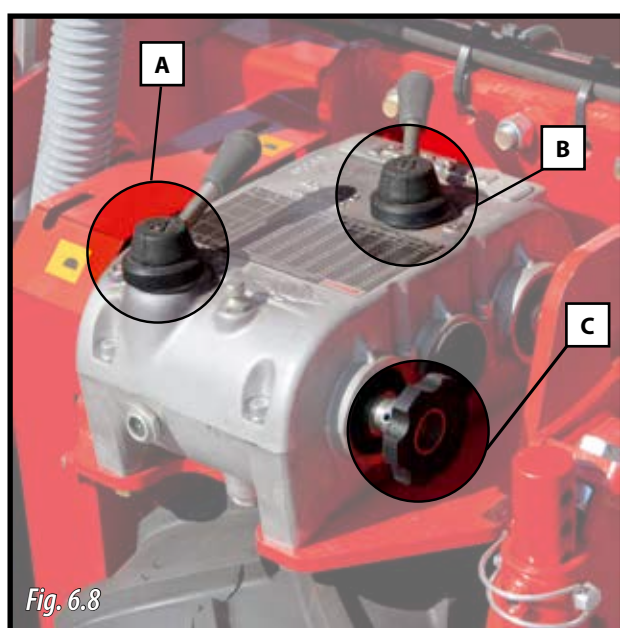

Fig. 6.8
- 2- Place the lever "A" (fig. 6.8) in the correct position and turn the wheel (C, Fig. 6.8) in the forward direction until the gear clutches in. Alternatively, turn the drive wheel using your foot in the forward direction.